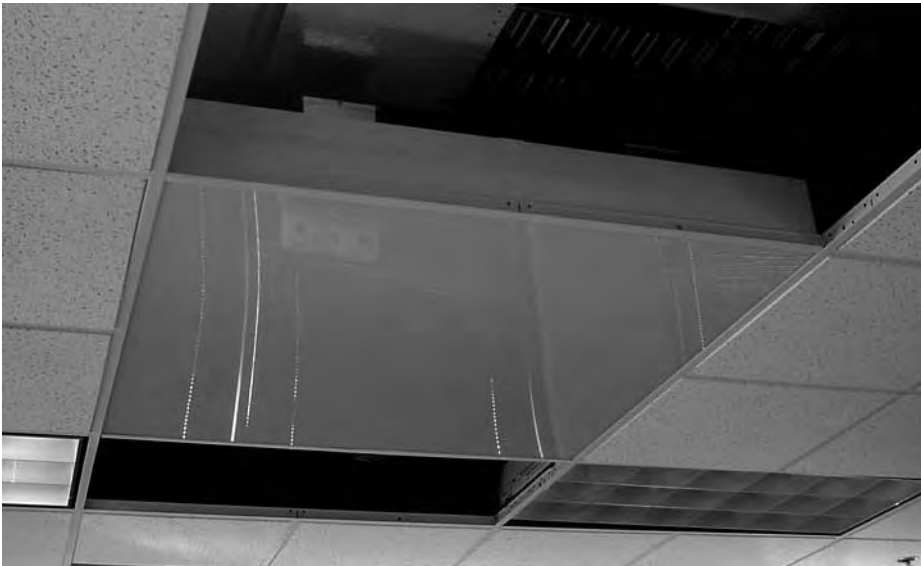

Figure 11: CCT Light Box
The white diffuser panel(s) is supplied detached from the troffers and must be installed by the customer. See cover of this manual and Figure 11 below for an example of a typical panel installed. The Troffer(s) is designed to rest atop the diffuser panel(s). In some cases, grid elements must be removed to accommodate the panel being installed. If this is necessary, do so at this time. Note that the diffuser panel is intended to be placed directly onto the grid structure with the CCT box placed onto the panel.
2. Slide the diffuser panel in place between the grid and the edge(s) of the CCT box(es). See figure 11.